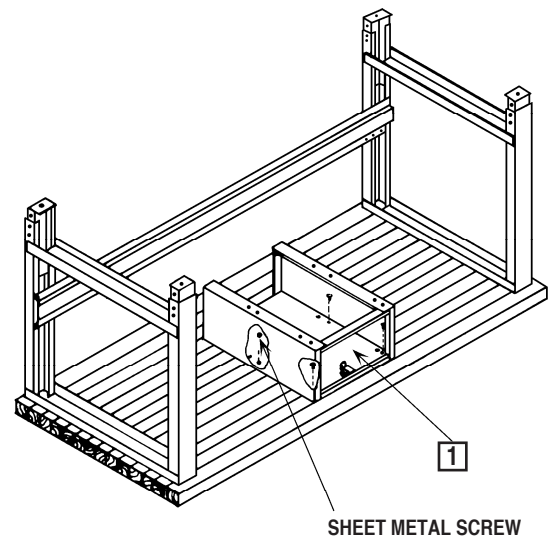

FIGURE 27
- Place the tier drawer case (Item 1) on the bench top at desired location with open side of the case facing forward and parallel with front edge of bench. Use tier drawer case as template and drill (4) 3/16" pilot holes x 1" deep for the lag screws. Fasten the tier drawer case to the bench top with (4) #14 x 1" sheet metal screws. See Figure 27.